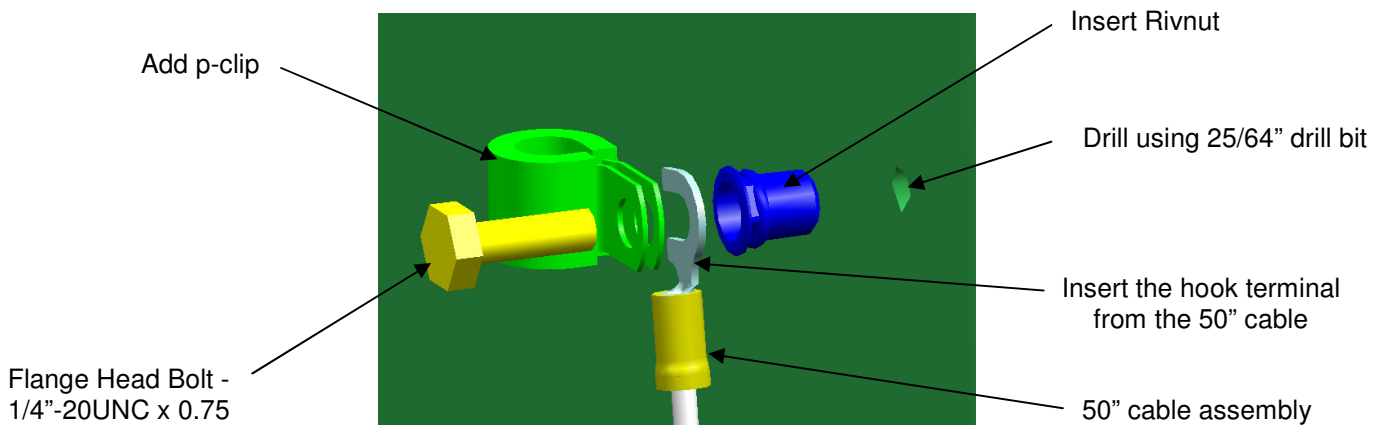

Figure 5: Rivnut and Cable Installation
6. Install the rivnut from kit p/n 6449313 into the newly enlarged hole, see Figure 5.
7. To ground Mini-Hybrid® cooling system shroud secure the 1/4" hook terminal end from the supplied 50" cable using a flange head bolt supplied with kit p/n 6449008. If the removed tyrap was used to secure wires, also install the p-clip from kit p/n 6449313 under the bolt head to secure the wires. Torque to 12±2 ft-lbs, see Figure 5.